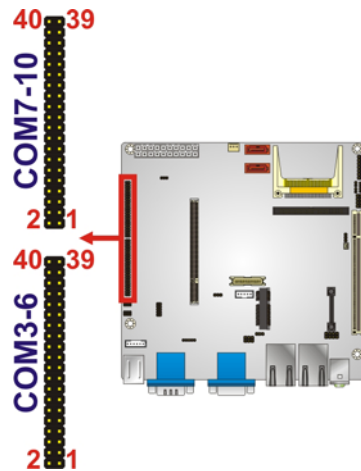

Figure 3-16: Serial Port Connector Location
- CN Location:** See **Figure 3-16**